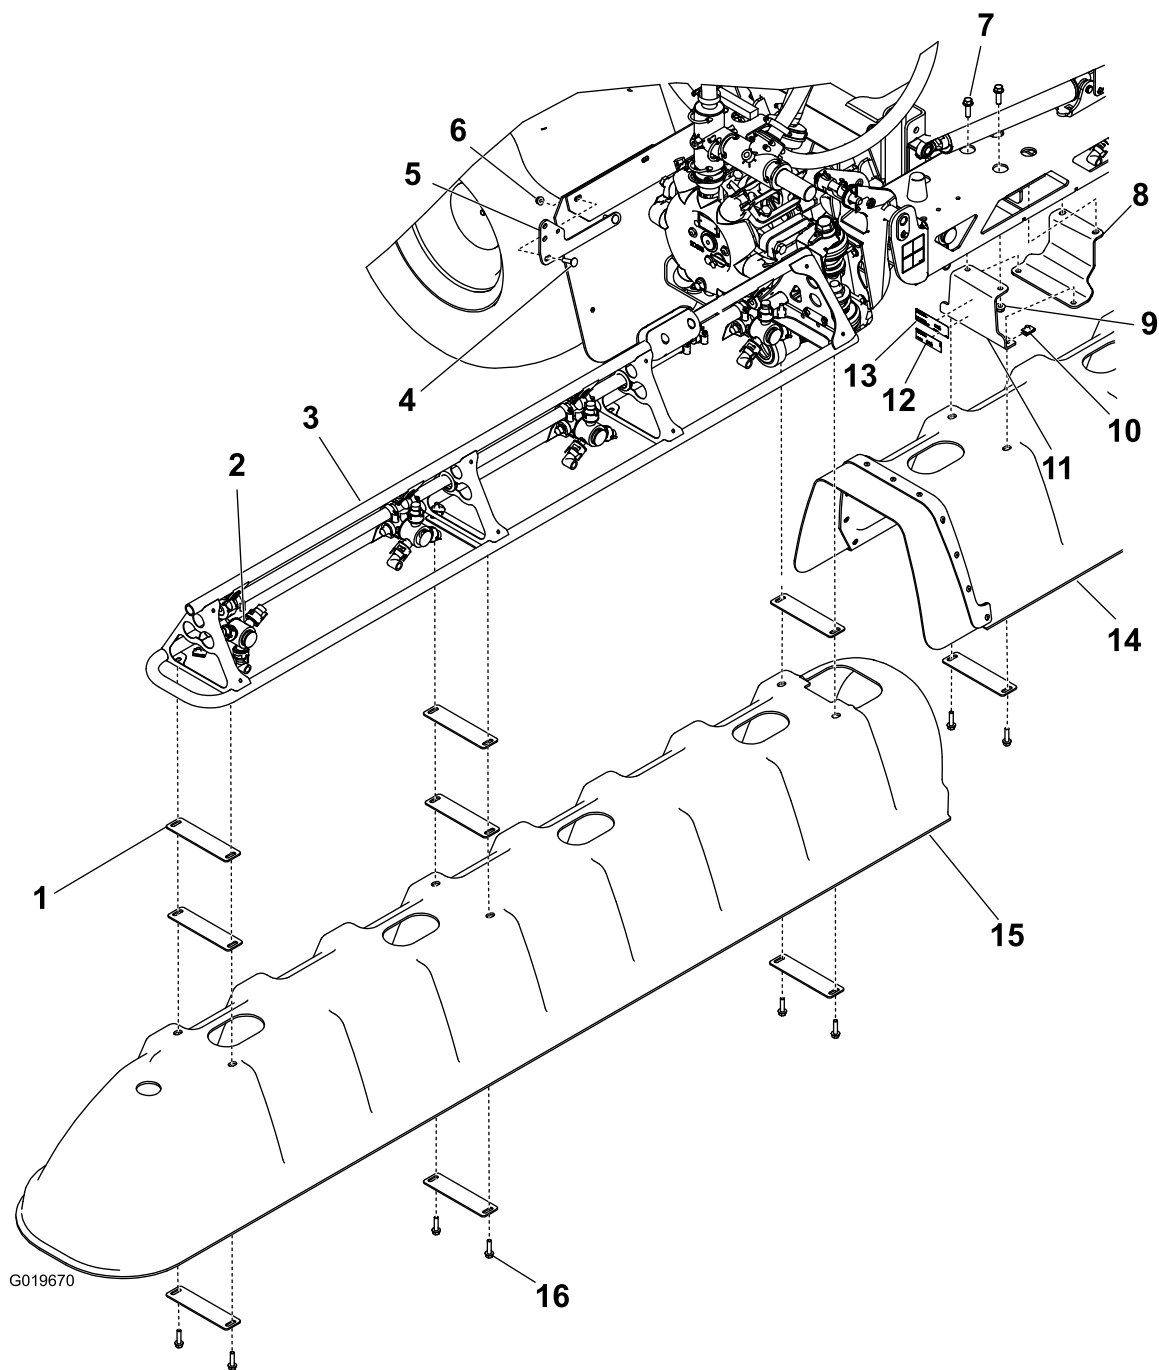

Figure 1
1. Attach the model/serial number decal and the regulatory decal to one of the center boom brackets as shown in Figure 1.
2. Install each of the 2 center brackets and boom mount plates to the center boom using 2 hex head screws (3/8 x 1-1/4 inch) and 2 flange nuts (3/8 inch) as shown in Figure 1.
3. Install the center cover assembly to the center boom brackets using 4 U-nuts 2 washer plates, and 4 hex head screws (5/16 x 1-1/4 inch) as shown in Figure 1.
2. Install one of the wing boom covers (Figure 1) using 8 washer plates, 6 hex head screws (5/16 x 1-1/4 inch), and 6 U-nuts.
1. Install the drain valve mount bracket onto the machine with 2 carriage screws and 2 flange nuts (5/16 inch) as shown in Figure 1.
2. Move the drain valve from its existing position and install it onto the mounting bracket (Figure 1) using the existing lynch pin and lanyard.